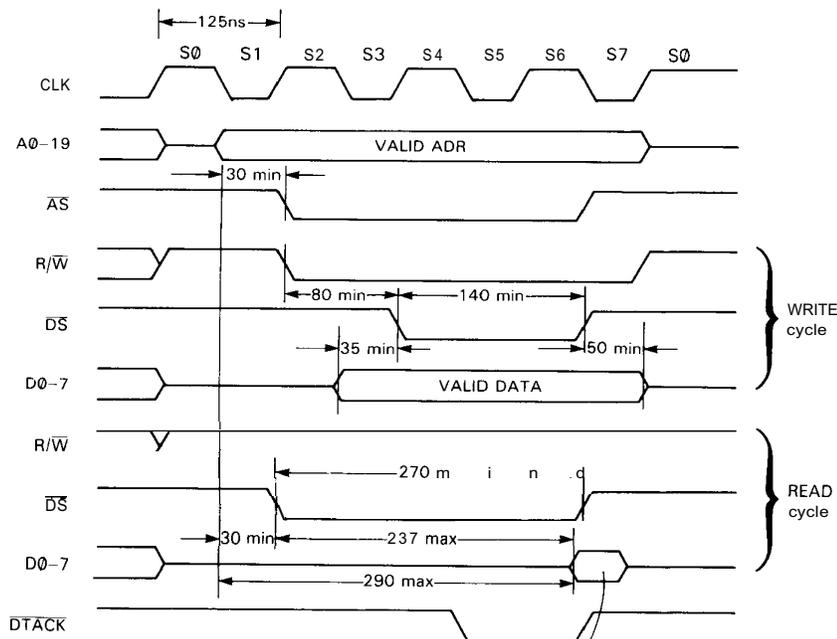

Figure 11.4. 68008 READ/WRITE cycles (8MHz, no wait states).
Programmed data transfer is shown in Figure 11.4; we have also included some signals (CLK and AS') that you can generally ignore in your circuit design. The 68008 uses a single data strobe (DS') and a read/write direction line (R/W'), rather than the PC's pair of strobes (IOR', IOW').
edge signal DTACK' from the addressed device before completing the cycle. If DTACK' comes back before the end of S4, no wait states are inserted, and the timing is as shown in Figure 11.4; but if DTACK'
read/write port. The address lines are decoded and qualified with DS' and R/W' to generate the D-register clock (write) and three-state enable (read). DTACK' is asserted whenever this port is addressed, since you never need wait states for devices as fast as octal registers; we've used the usual trick of making a three-state driver into an open-collector driver. Note that we've used the trailing edge of DS' to clock the D register; that is because the 35ns minimum "valid data" to the leading edge of DS' (see Fig. 11.4) is uncomfortably close to the setup time requirement of many octal registers (e.g., both LS and HCT families have  $t_{setup} = 20ns$ , min). In fact, if the data bus is *buffered* (for example with '245 octal bidirectional buffers), the additional delay of DATA relative to DS' might violate minimum setup time for the
and Vectron. The 68008 likes a symmetrical clock waveform, which is best generated by dividing the oscillator output with a toggling flip-flop. Maximum clock speeds are usually indicated in microprocessor part numbers (memory, too): Current versions of the 68008 go to 10MHz (MC68008P10). Two-byte instructions generally execute in four clock periods (as in Fig. 11.4), while instructions with the fancier addressing modes have to do more memory fetches and can take up to 70 clock periods or so.
**DTACK', BERR', and slow peripherals.** Finally, we used an 8-bit parallel-out shift register ('164) as a state machine to generate several necessary signals in sequence. The shift register is held reset until the CPU asserts AS', which signals the beginning of a bus cycle (Fig. 11.4), whereupon 1's begin propagating down the register, one stage per CPU-clock rising edge. The Q0 output is used to generate a delayed RD' signal for two fussy peripherals (SCC and CIO), as we'll explain shortly. Several I/O devices are slow and require wait states; we therefore used shift register output Q2 to generate a delayed DTACK, resulting in two wait states for all I/O ports (in our scheme, all I/O is memory-mapped above \$80000, i.e., A19 asserted), and no wait states for memory (A19 not asserted). We're in trouble if a 1 ever propagates as far as the last stage of the shift register, since all bus cycles should end (with disassertion of AS) long before that. Therefore we've used the last stage (Q7) to assert BERR, which forces a vectored jump (through \$08) rather than letting the CPU hang forever. Such a bus "time-out" signal is particularly important in a general-purpose computer, where a CPU access to a nonexistent peripheral would otherwise crash the machine.